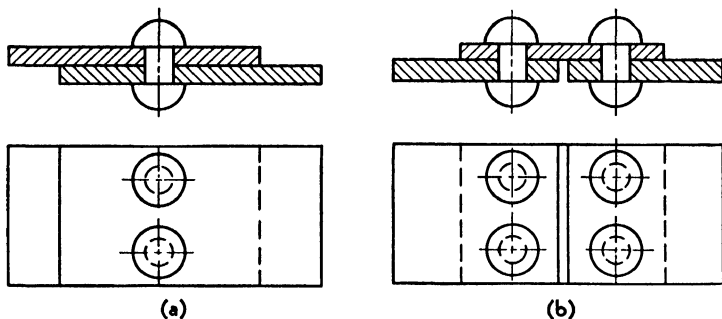

Fig. 232.—Types of riveted joints: (a) lap joint, (b) butt joint.
C. Riveted Joints. There are two main classifications of riveted joints: lap and butt joints, as illustrated in Fig. 232.